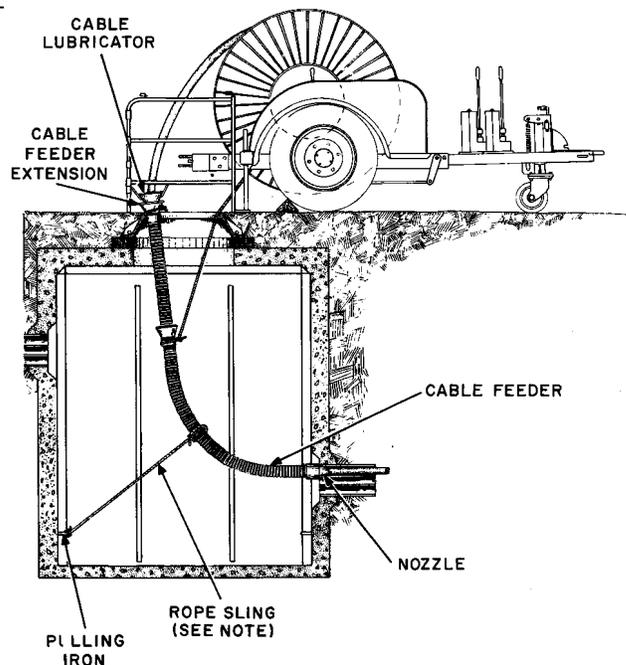

Fig. 6—Supporting Cable Reel With Cable Reel Trailer
7.02 Set up the reel on a cable reel trailer (Fig. 6) equipped with a brake so that reel rotation can be controlled. Do not use a plank or any other improvised arrangement to brake the reel. Refer to Section 649-210-211 for loading and to Section 649-210-121 for cable reel brakes.